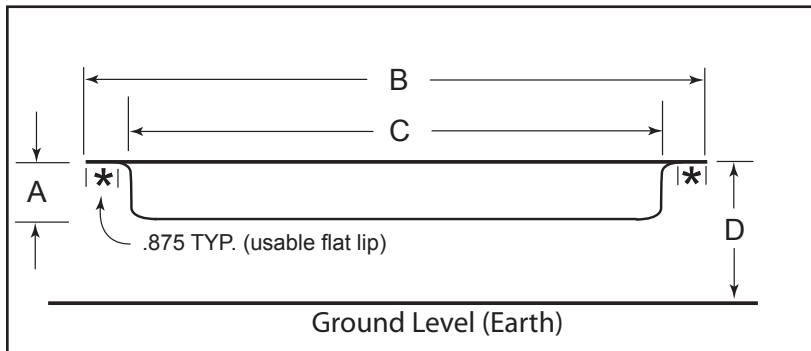

Figure 1. Fire Pit Dimensions; refer to Table 1.
**NOTE:** Do not place fire pit directly on grass, dirt, or rocks this may prevent proper ventilation (Fig.1, pg. 3). **Ensure proper water drainage is also incorporated into the fire pit enclosure.**